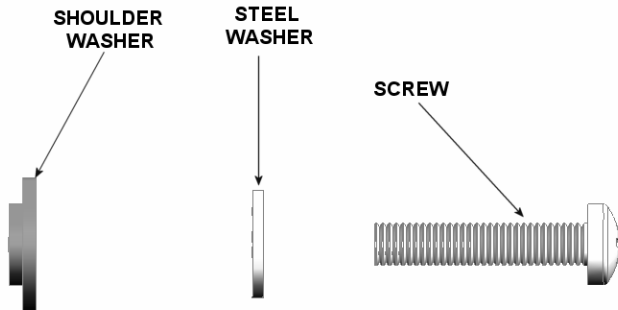
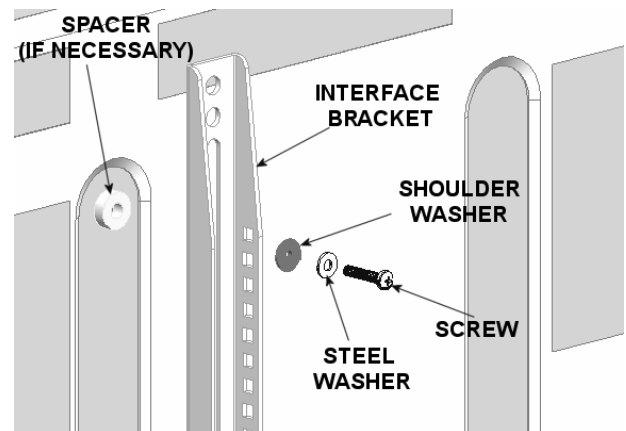

Figure 4. Attachment Parts
Figure 5. Attachment
2. Secure the left and right factory assembled interface bracket assemblies (20) to the display. Select the mounting hardware that fits your application. Read the following list and refer to Figure 4 and Figure 5.
- > Use M6 screws (70 or 80) or M8 screws (40, 50, or 60), steel washers (160), and shoulder washers (200).
- > Or, use M4 screws (120, 130, or 140) or M5 screws (90, 100, or 110) steel washers (150), and shoulder washers (190).